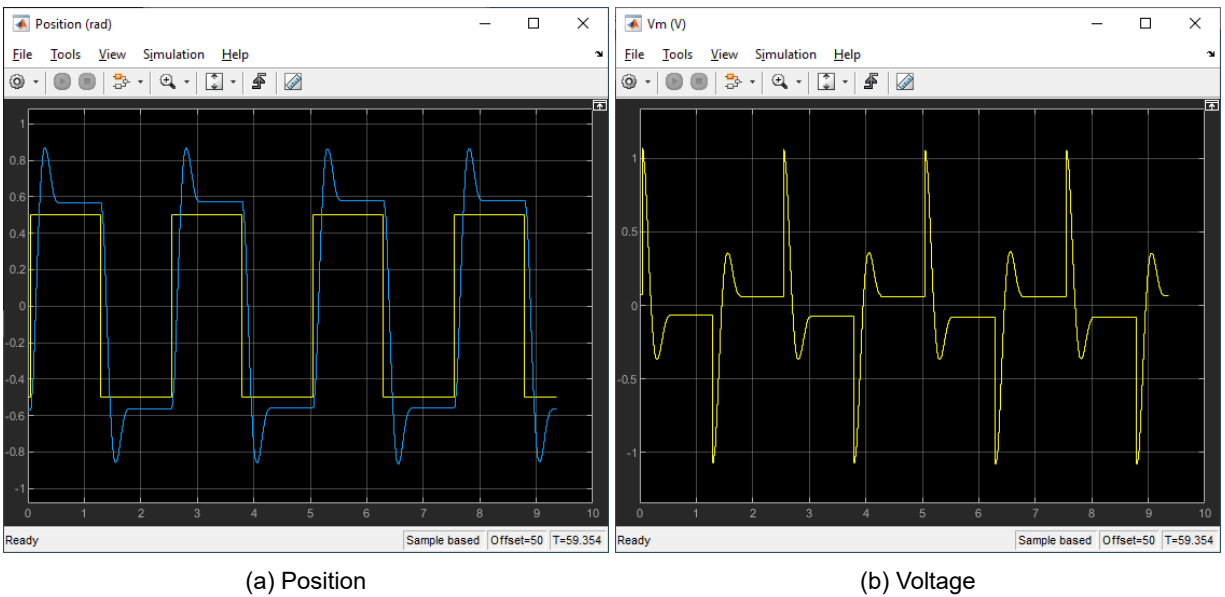

Figure 2.2: Proportional position control response with $k_p = 1$.
5. Build and run the QUARC controller. The response should look similar to Figure 2.2 when the proportional gain is set to 1.